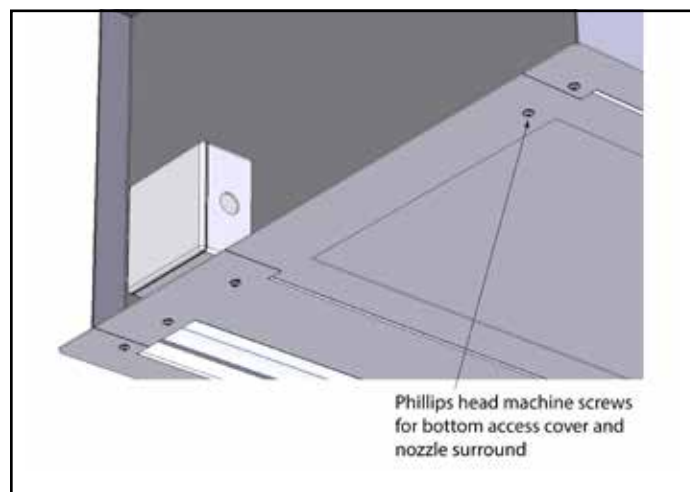
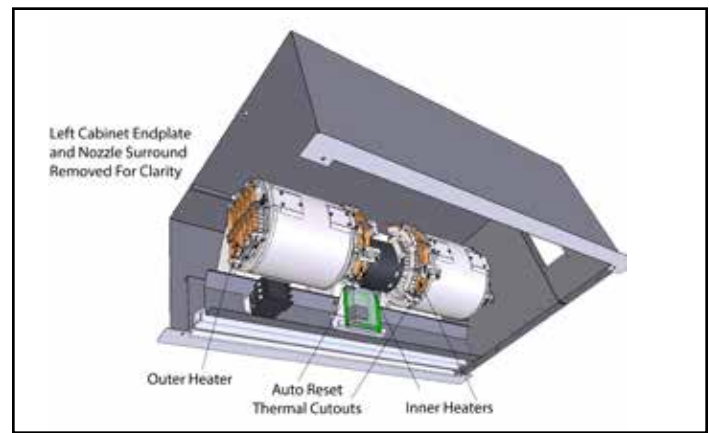

Figure 7
Figure 8
See Figure 8.
- B. Remove the bottom access cover by removing (2) Phillips head machine screws located at the cover's corners. **See Figure 7.**
2. Remove the bottom access cover by removing (4) Phillips head machine screws located at the cover's corners. **See Figure 7.**
3. If desired, the nozzle surround may be removed to provide more working room. To remove the nozzle surround, remove the (4) Phillips head machine screws from the corners. The Intelliswitch® ribbon cable must also be disconnected from the back of the display circuit board before the nozzle surround can be set aside.
5. If the unit has electric heat, the heaters need to be disconnected from supply wiring. Each fan housing will have a heating element on both of its sides, spanning the inlet venturi. Each heating element will have (2) ¼" quick disconnects for power supply wiring. In addition, the heating elements located on the inside of the module will have (2) ¼" quick disconnects for the auto reset thermal cutouts. Label and separate all of those connections. **See Figure 8.**
4. Label and detach the connections for supply power and for the auto reset thermal cutouts located on both inner heaters. **See Figure 8.**